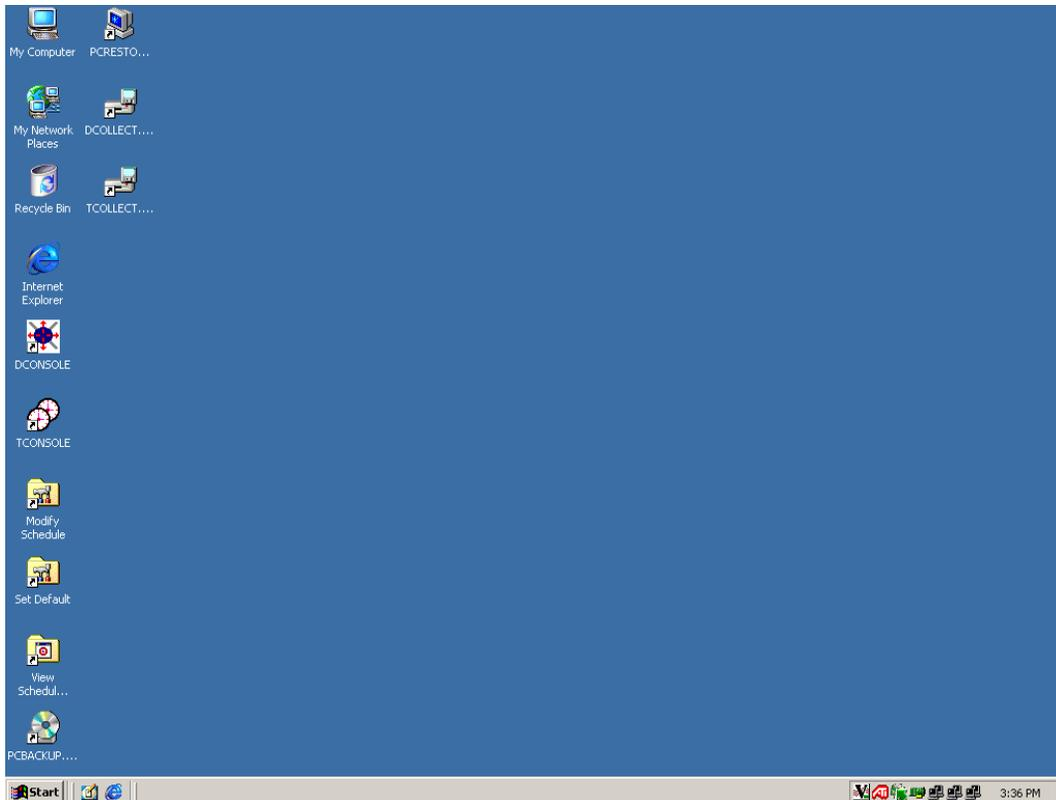

Figure 13 Windows 2000 Desktop
3. Type the default Windows 2000 user name and password and click OK. The server's Windows 2000 desktop opens (Figure 13).
1. At the Windows 2000 desktop (Figure 13), double-click the director console (**D**CONSOLE) icon (Figure 27).